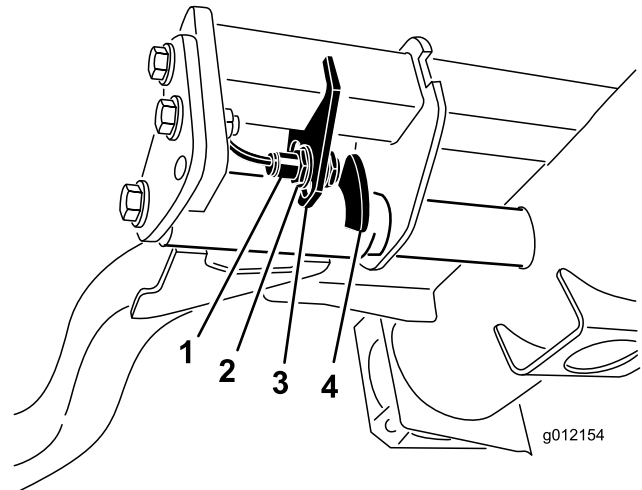

Figure 38
2. The lift-arm switch is located underneath the hydraulic tank behind the front, right lift arm (Figure 38).
turnaround height or move the switch up to decrease the lift-arm turnaround height (Figure 38).